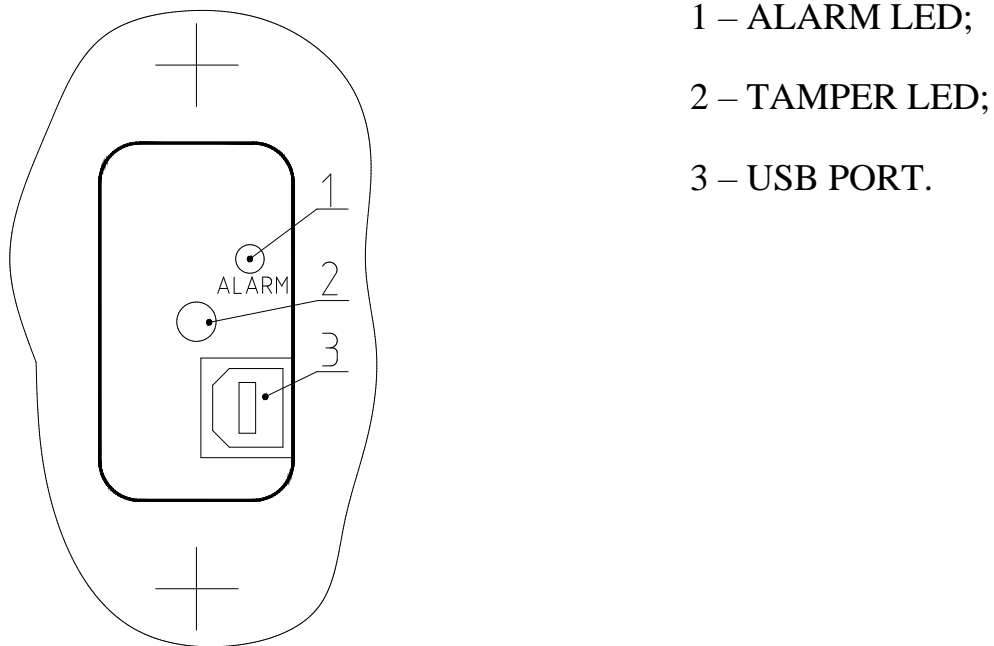

Figure 1.3 – Configuration elements of ZEBRA-9.60C
1.4.3.1 Figure 1.3 shows the configuration elements located under the lid.